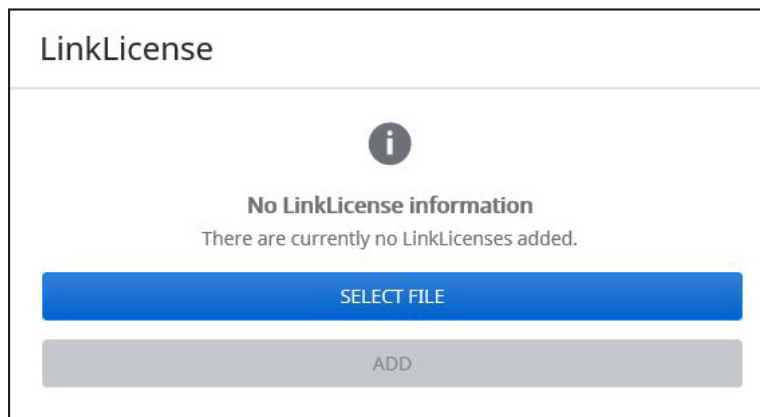

Figure 35. LinkLicense Window
1. On the LinkLicense panel (see figure 35), click **Select File**.